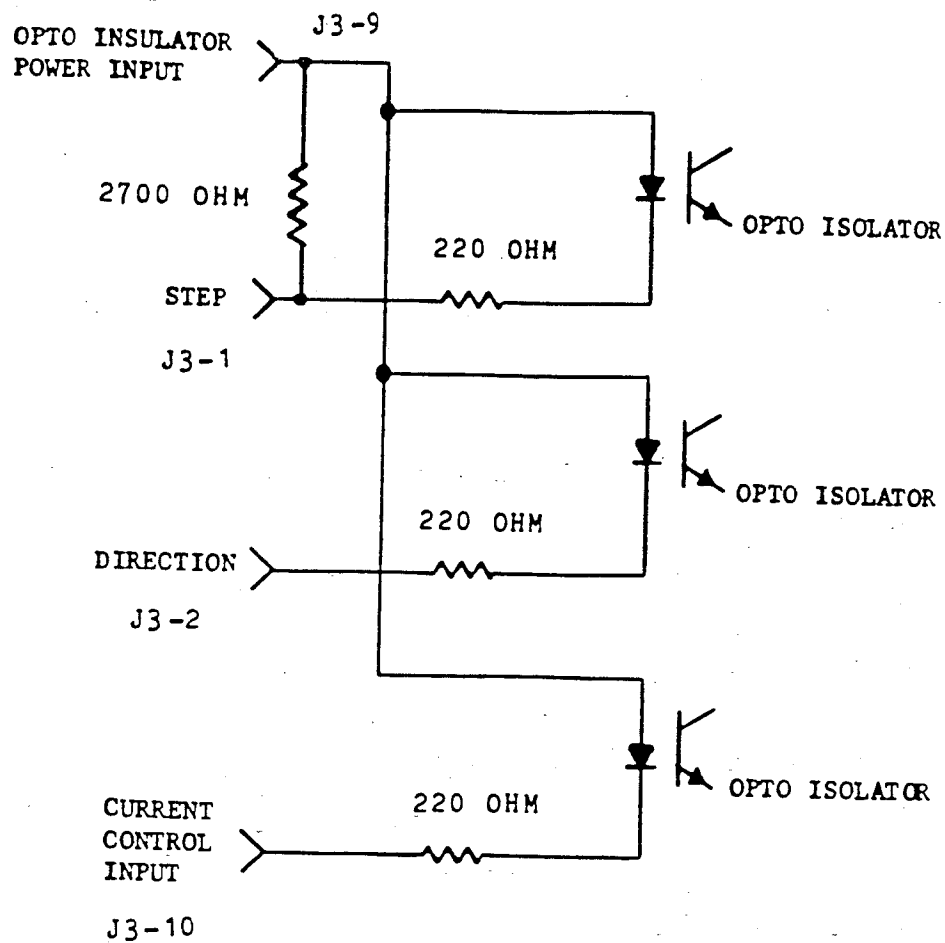
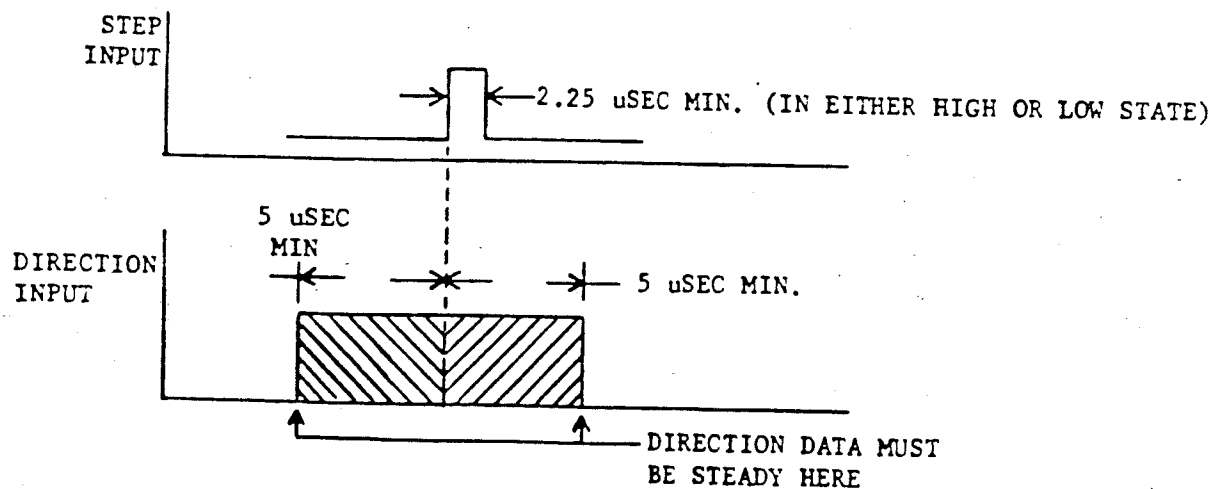

Figure 3.3
Figure 3.4
- J3 - 1 : STEP Signal Input. The input pulse train that causes the motor to step is applied at this pin. The step will occur on the low-to-high transition of the STEP pulse; the STEP pulse must have a minimum duration of 2.25 usec. Figure 3.3 illustrates the STEP input circuit and Figure 3.4 the step input timing.
- J3 - 2 : DIRECTION Signal Input. For a given connection of motor phase windings, this input determines the direction of rotation of the stepping motor. If standard Sigma wiring is followed, and the desired motor direction is incorrect, reversing the connections of one of the stepping motor phase windings will cause a reversal of the effect of the DIRECTION input. Figure 3.3 illustrates the DIRECTION input circuit.